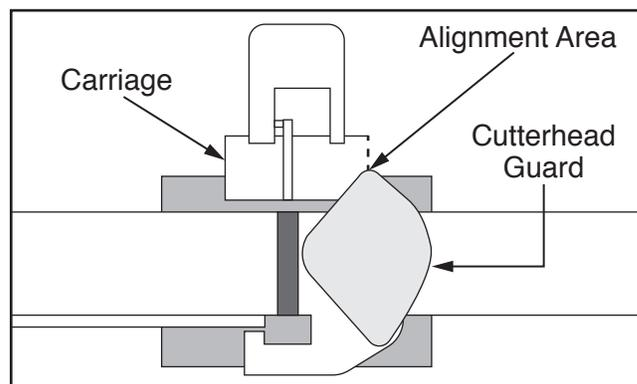

Figure 66. Cutterhead guard aligned with carriage.
- Align corner of cutterhead guard with edge of carriage (see **Figure 66**), raise guard 1/16" above infeed table, then secure set screw and Phillips head screw loosened in **Step 4**.